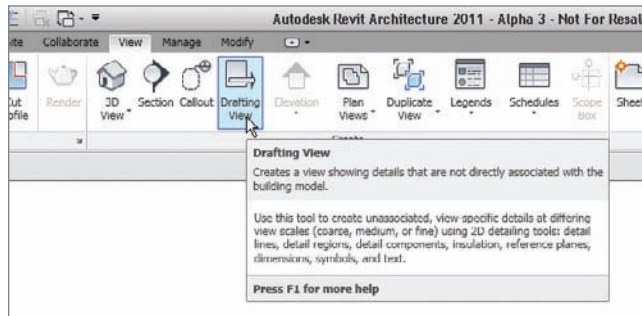

FIGURE 12.59 Click the Drafting View button on the View tab.
1. On the View tab, click the Drafting View button, as shown in Figure 12.59.